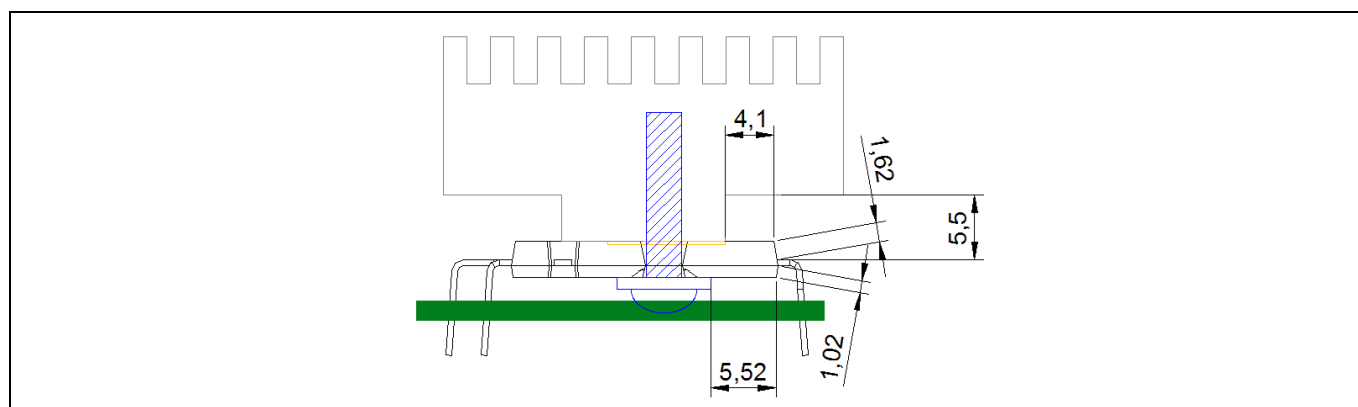

Figure 38 Recommended heat sink shape to get creepage and clearance distance between pins and heat sink
The electric spacing specifications of IM818 are shown in Table 25. The IM818 package(DIP 36X23D) does not satisfied clearance and creepage distance between pins and heatsink (earthed) and creepage distance on PCB between signal pins such as (2) to (3), (4) to (5), (6) to (7). Based on IEC and UL standards, to secure a clearance and creepage distance between the pins and the heatsink (earthed), a convex-shaped heatsink is necessary as shown in Figure 38, and the PCB slot is required to keep 4.0 mm creepage on the PCB between the signal pins.